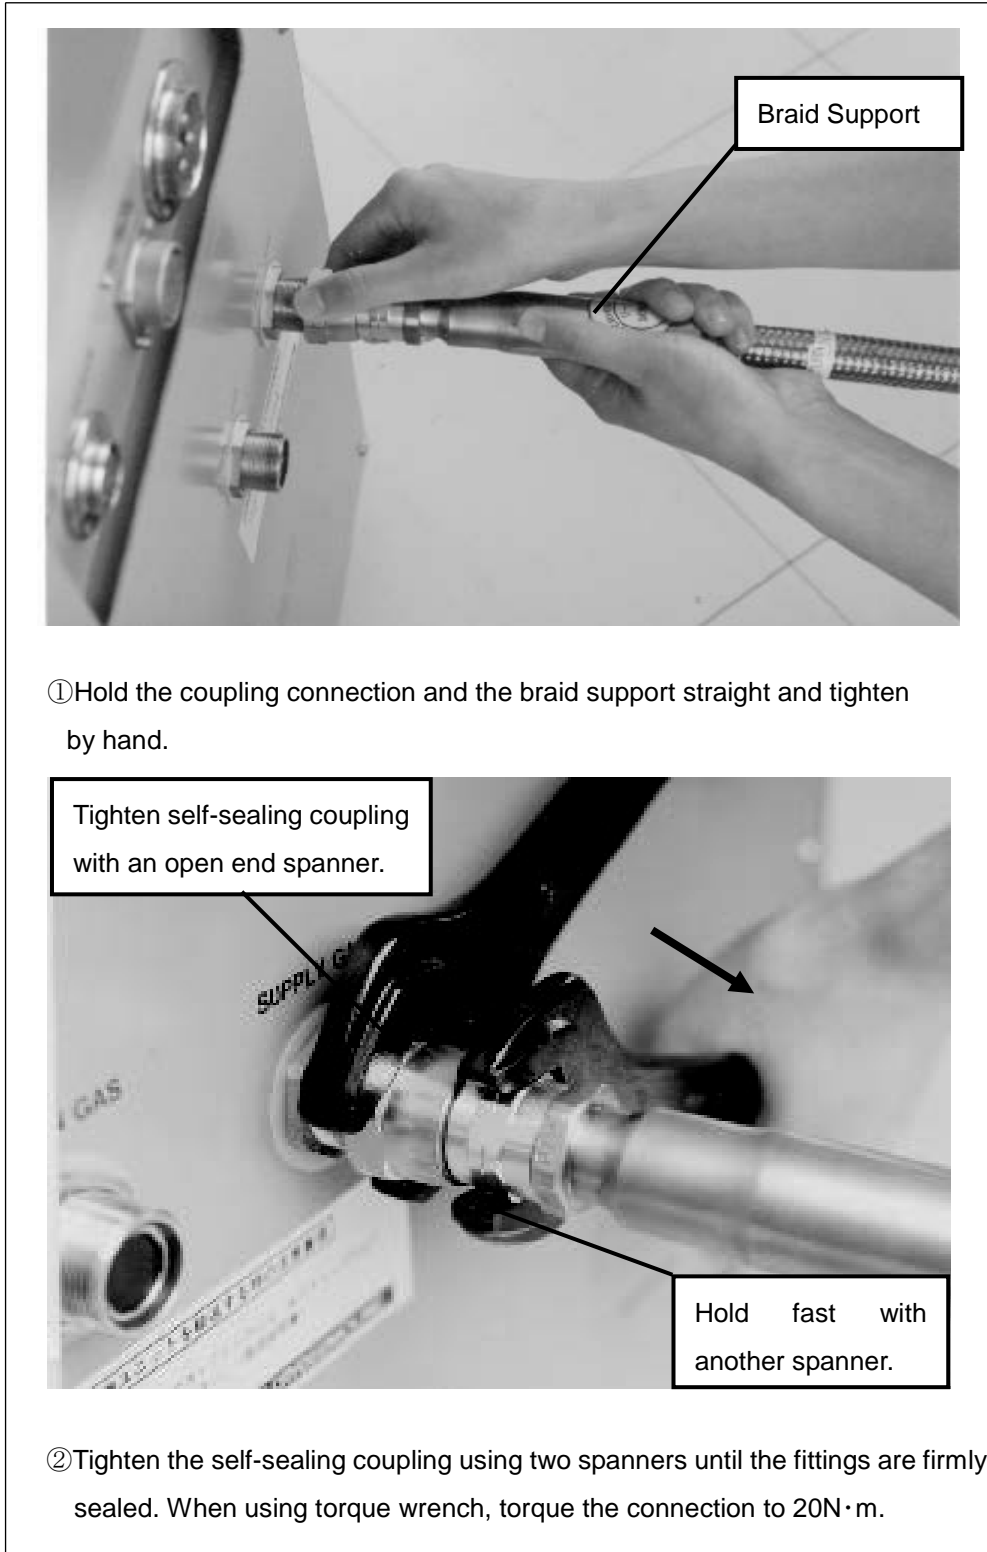

Figure 3-3 Connecting Flexible Hose
2. Connect the flexible hose from the compressor unit to the cryopump (See Figure 3-3).